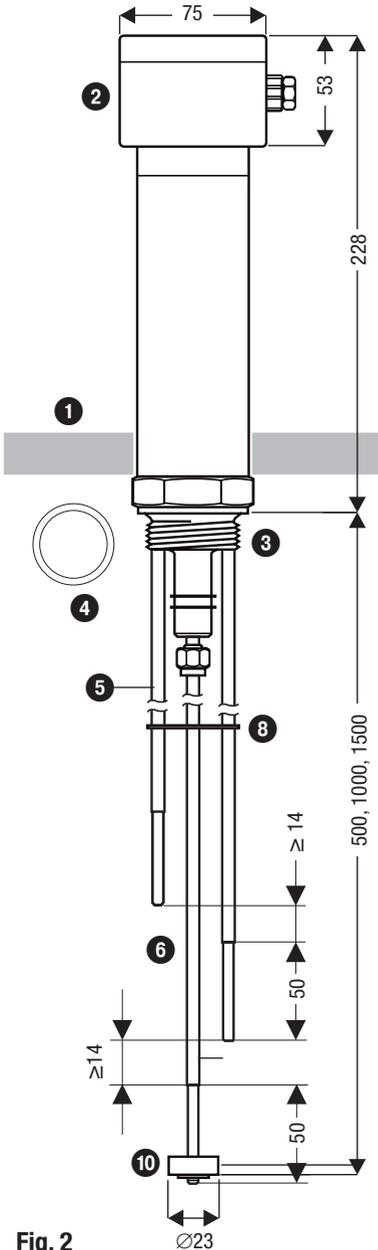

Fig. 2
Fig. 2: Dimensions are applicable for installation in water with a conductivity > 10 µS/cm / measuring length < 1000 mm. Measuring surface extension ⑨ not required
5. Strip off 50 mm **Fig. 2** or 17 mm **Fig. 3** of the PTFE insulation from the ends of the electrode tips.